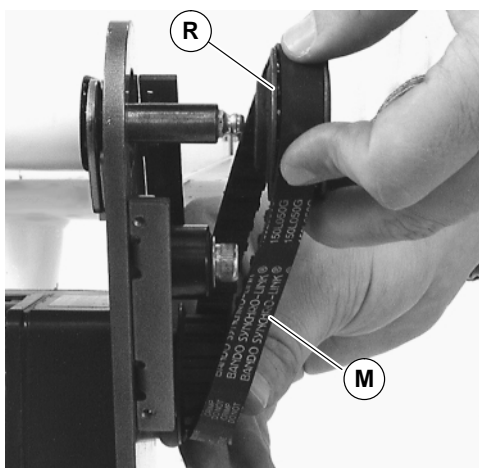

Figure 13
NOTE: If drive pulley (R of Figure 13) is replaced, wrap timing belt (M) around drive pulley and complete step 3.